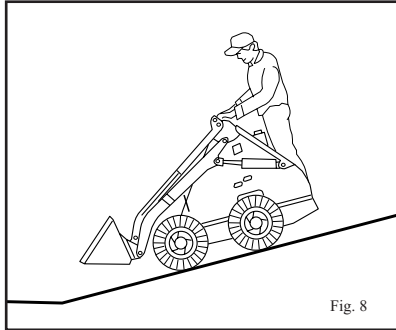
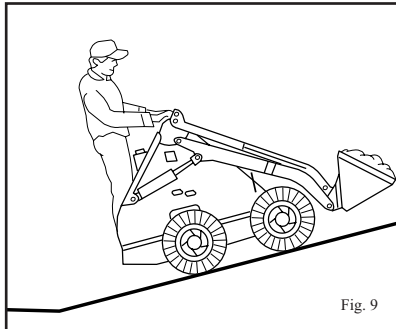

Fig. 8
Fig. 9
5. When driving on slopes, keep the heaviest end of the mini-loader upward. When driving on a slope with an empty bucket, back up the slope in reverse, and drive down a slope forward (Fig. 8). When driving on a slope with a load, drive up the slope forward and back down the slope in reverse (Fig. 9).